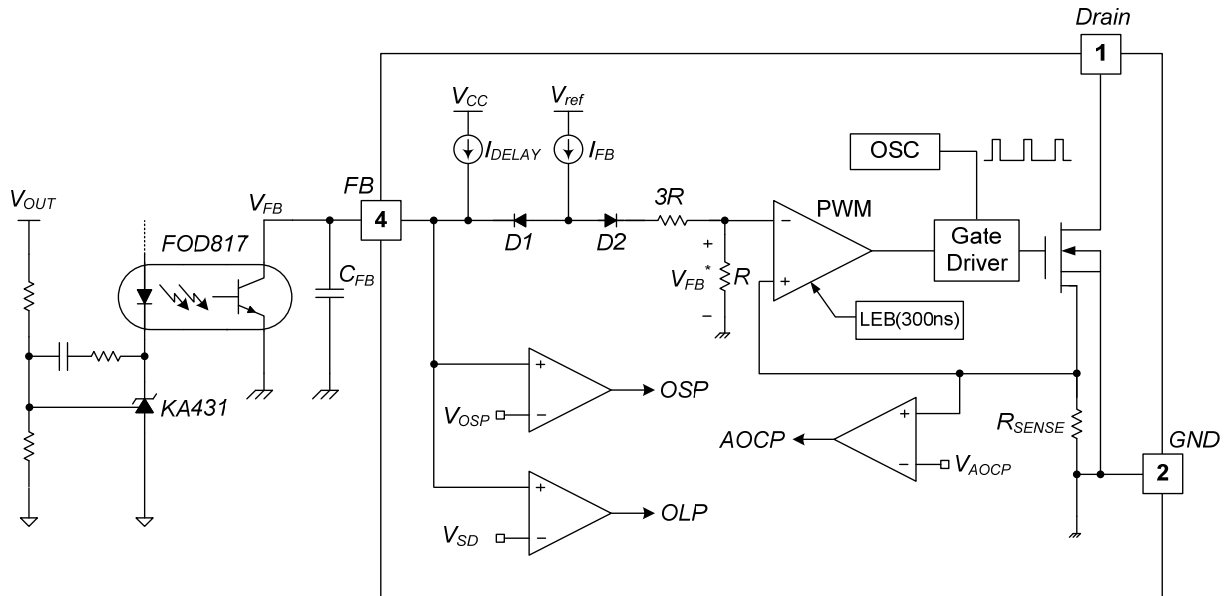

Figure 18. Pulse Width Modulation Circuit
3. Feedback Control: This device employs current-mode control, as shown in Figure 18. An opto-coupler (such as the FOD817) and shunt regulator (such as the KA431) are typically used to implement the feedback network. Comparing the feedback voltage with the voltage across the R_{SENSE} resistor makes it possible to control the switching duty cycle. When the reference pin voltage of the shunt regulator exceeds the internal reference voltage of 2.5 V, the opto-coupler LED current increases, pulling down the feedback voltage and reducing drain current. This typically occurs when the input voltage is increased or the output load is decreased.
3.1 Pulse-by-Pulse Current Limit: Because current-mode control is employed, the peak current through the SenseFET is limited by the inverting input of the PWM comparator (V_{FB}^*), as shown in Figure 18. Assuming that the $90 \mu\text{A}$ current source flows only through the internal resistor ($3R + R = 27 \text{ k}\Omega$), the cathode voltage of diode D2 is about 2.5 V. Since D1 is blocked when the feedback voltage (V_{FB}) exceeds 2.5 V, the maximum voltage of the cathode of D2 is clamped at this voltage. Therefore, the peak value of the current through the SenseFET is limited.